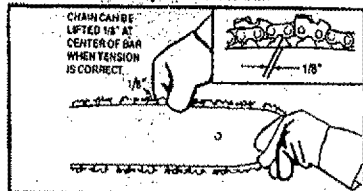

Figure 11
- Check the tension by lifting the chain from the guide bar at the center of the bar, Figure 11.
- Recheck tension, See Figure 11.